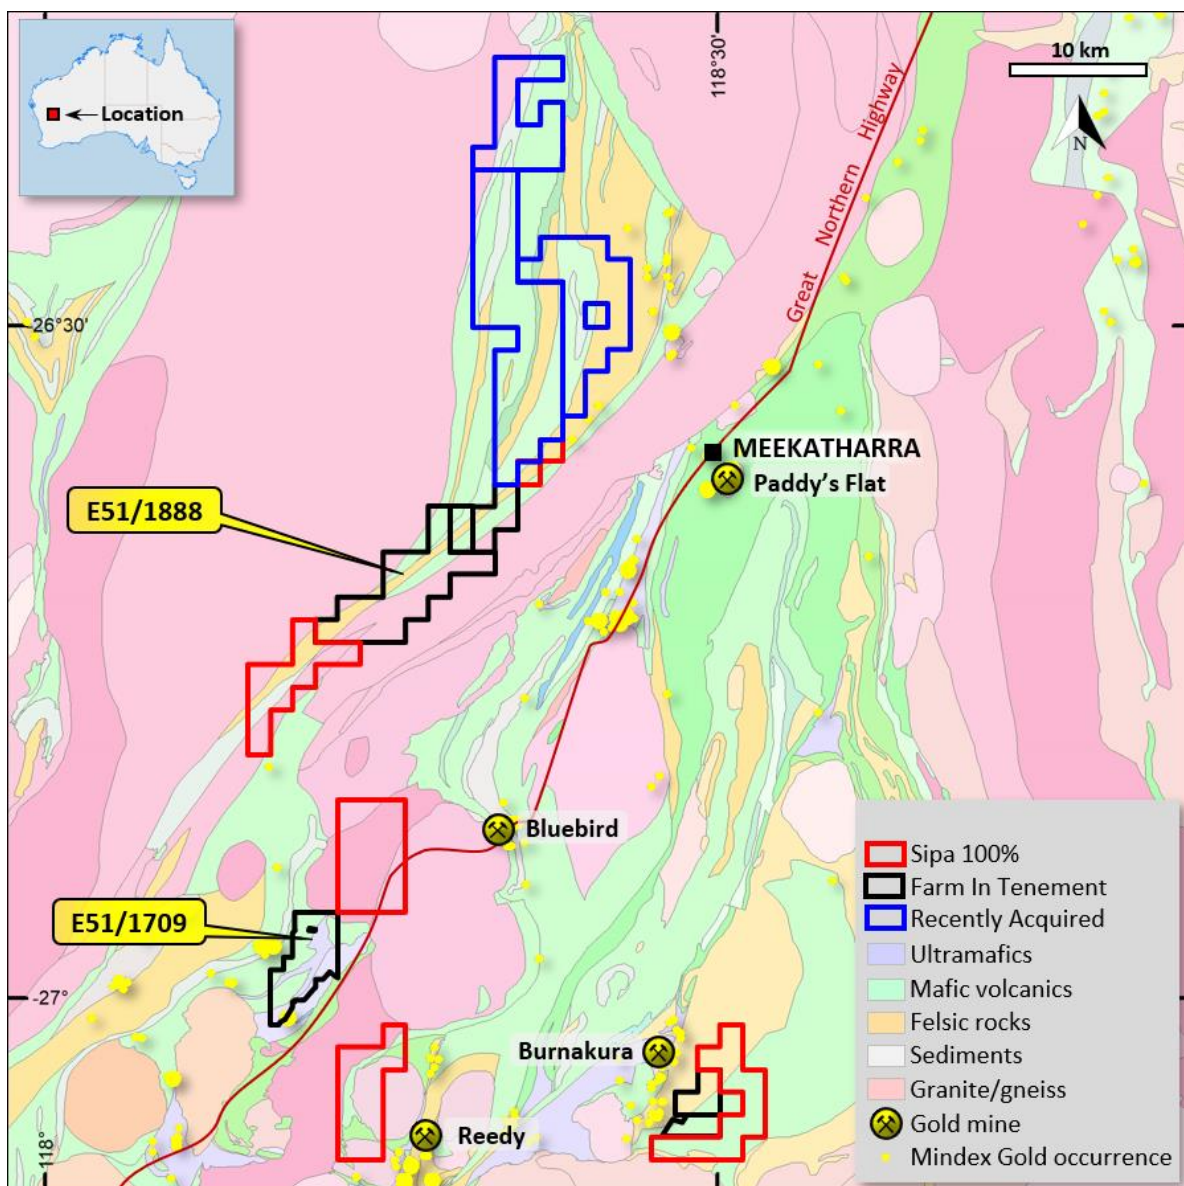

Figure 1: Sipa's Murchison Project showing the locations of E51/1709 and E51/1888.
- The final assay results have been received from the recent first-pass drill program at Sipa's Murchison Project that tested targets on three tenement areas (Figure 1).
Sipa Resources Limited (ASX: SRI) ("**Sipa**" or "**the Company**") has received the remaining assay results from the recently completed first-pass aircore (AC) drill program undertaken on three tenements forming part of its Murchison Project. The project is located near Meekatharra in Western Australia, where Sipa's 100% owned and Farm In tenure covers ~467 km² (Figure 1). The results reported herein relate to farm-in tenements E51/1709 and E51/1888 (Figure 1).